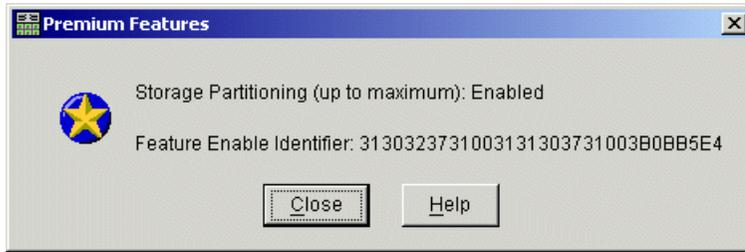

Figure 5-18 Premium Features window
2. The Premium Features window is displayed. This shows the current Premium Features that are enabled, along with the Feature Enable Identifier, as shown in Figure 5-18: